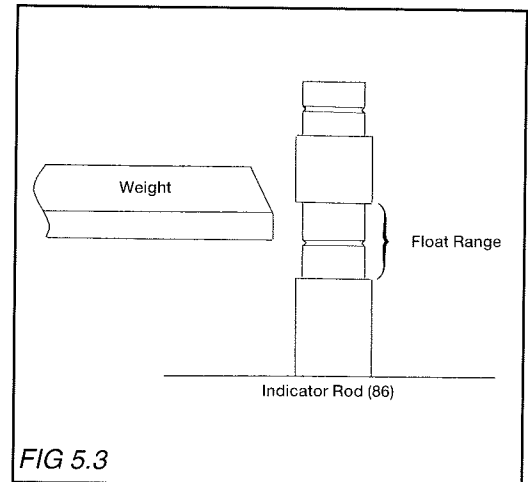

FIG 5.3
Note: Ensure that the bottom face of the lowest weight is aligned within the lower recessed area of the Indicator Rod (86). (See Figure 5.3).